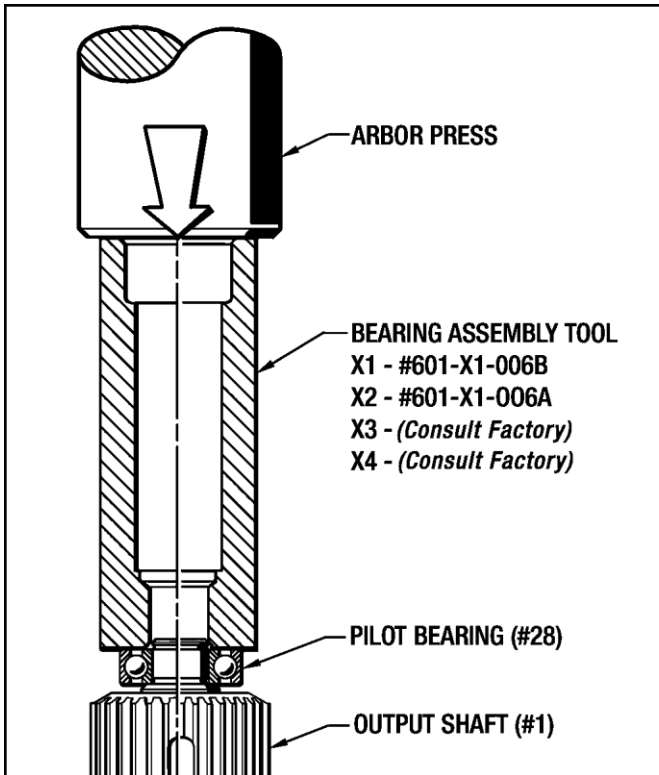

Figure 9.5 - Installing Pilot Bearing (#28)
1. Install the Pilot Bearing (#28) on to the Output Shaft (#1) with an Arbor Press and the appropriate Bearing Assembly Tool as shown in Figure 9.5.